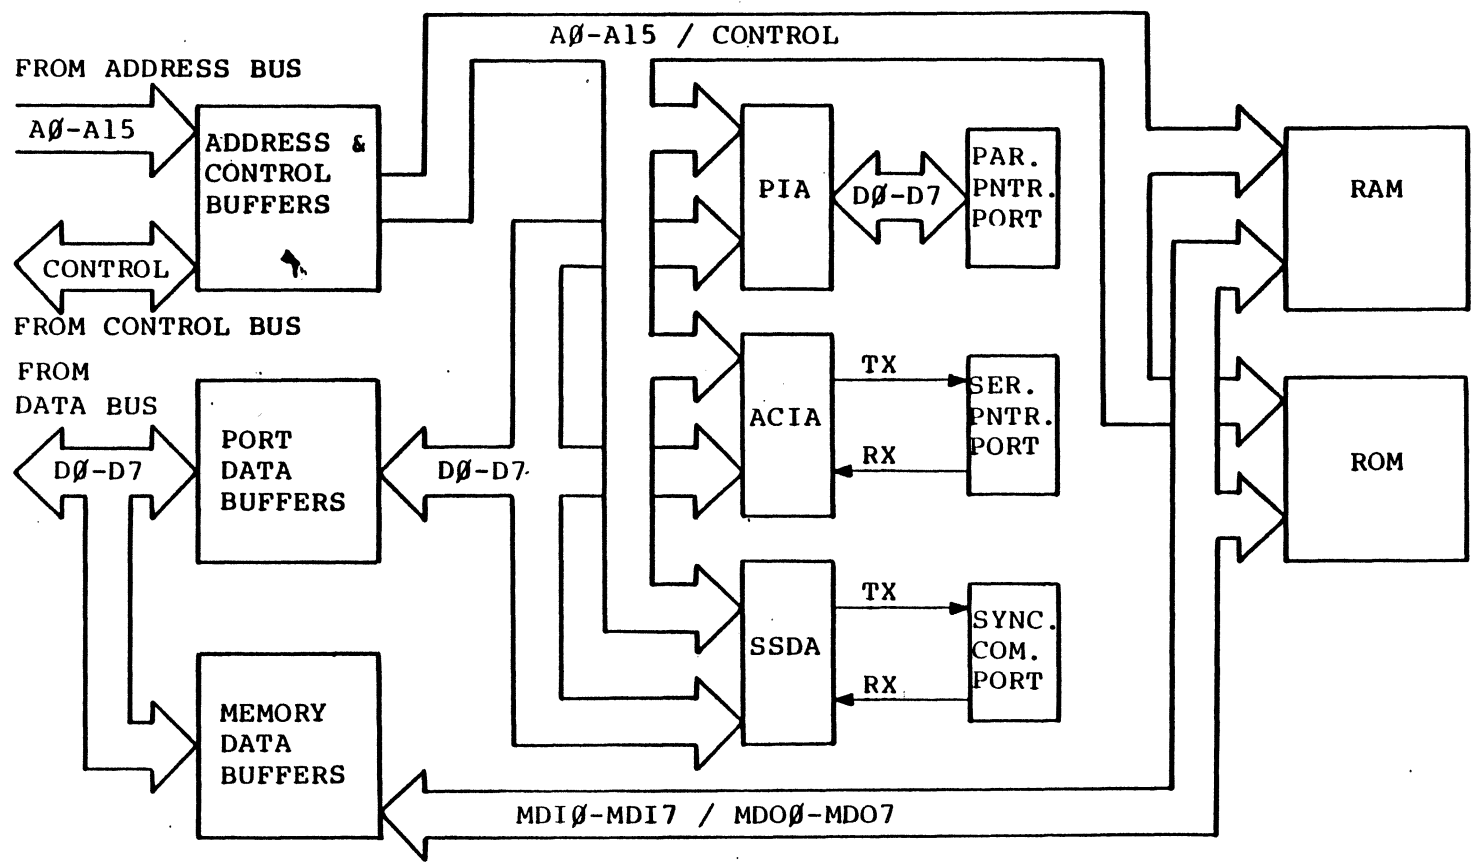

Figure 6-12. Option Board Block Diagram
6.3.8 Option Board (Figure 6-12; Schematic 2 (Option Board), Sheet 1-8)